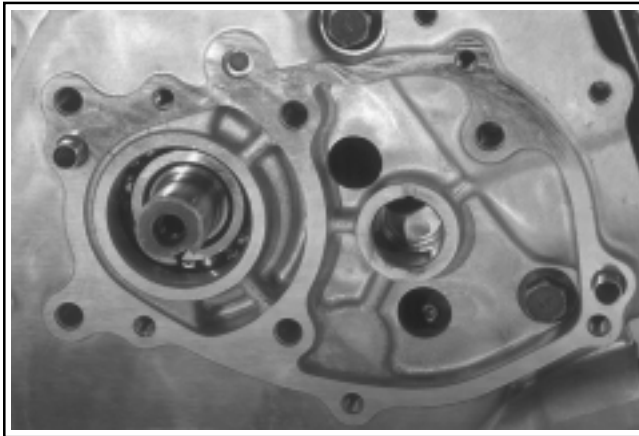

Figure 10-26. CS4, CS6 Oil Passage.
5. Check to see that the closure plate/oil passages to the reduction assembly are open and not restricted. See Figures 10-26 and 10-27.